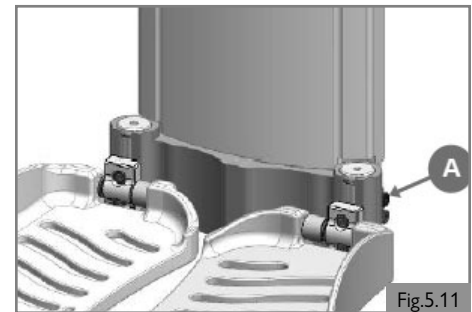

Fig.5.11
1. Use 5mm Allen key to remove the two bolts (A) on the outside edge of the PCM leg rest. Repeat for the other side. (Fig.5.11 and 5.12)